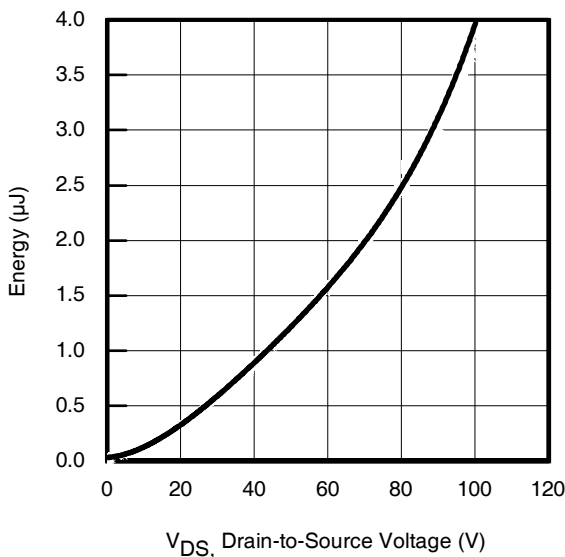

Fig 11. Typical C_{OSS} Stored Energy
| $C_{oss \text{ eff. (ER)}}$ | Effective Output Capacitance (Energy Related)⑥ | — | 757 | — | | $V_{GS} = 0V, V_{DS} = 0V \text{ to } 80V$ ⑥ See Fig.11 |